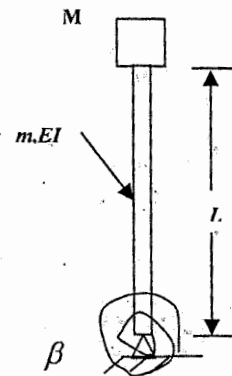

Fig. 4
Q. 4 An electric overhead crane consisting of girder, trolley and cable is shown in Fig. 4. The girder has following properties: span, $L = 30$ m; area moment of inertia, $I = 0.01$ m⁴; and modulus of elasticity, $E = 200$ GPa; The mass of the trolley (m_1), the mass being lifted (m_2) are respectively 1000 kg and 4000 kg. The cable has a stiffness 3×10^5 N/m. Determine natural frequencies and mode shapes of the system. (7.5)
Q.4 A beam of length L , mass per unit length m and flexural rigidity EI carries a lumped mass M at the top. The beam is supported at the bottom as shown in Fig. 4. Assuming, $y(x,t) = \frac{x}{L} y_1(t) + (\frac{x}{L})^2 y_2(t)$, derive the equation of motion of the system. Calculate frequencies and mode shapes of this two-degree freedom system by assuming $M = mL$ and rotational spring constant, $\beta = EI/L$ N.m/rad (8)